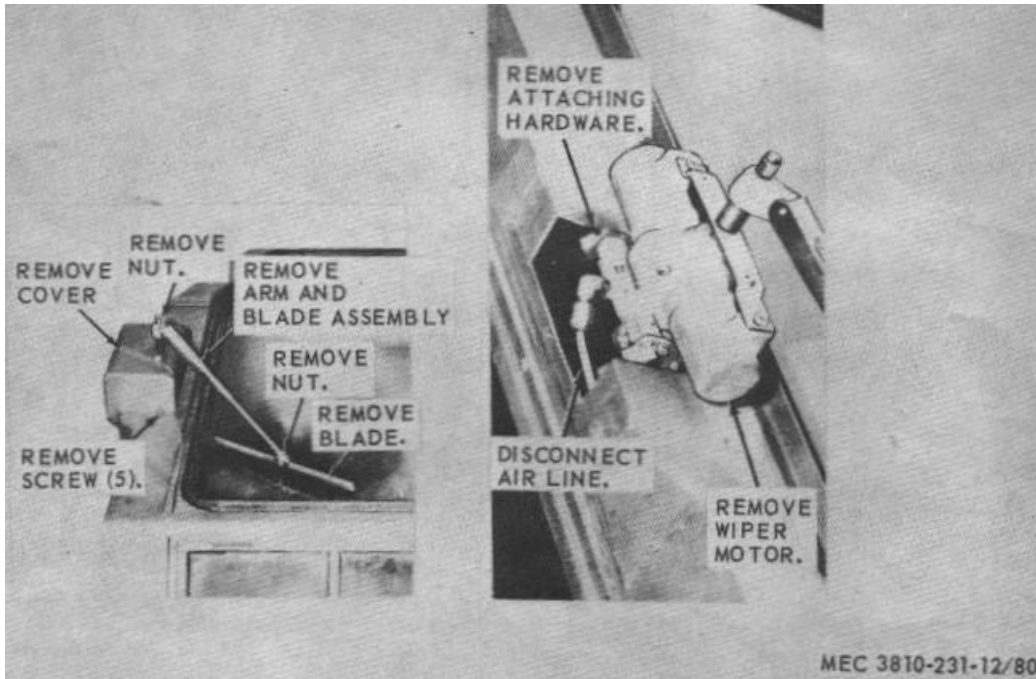

Figure 80. Windshield wiper motor, arm and blade, removal and installation.
b. *Removal and Installation.* Remove and install the windshield wiper arm and blade as illustrated in figure 80.
a. *Removal.* Remove wiper motor as instructed on figure 80.
- (1) Clean all parts with an approved cleaning solvent and dry thoroughly.
- (2) Inspect the windshield wiper motor for breaks, bends, or other damage. Repair or replace damaged hardware.
- (3) Inspect the motor for proper operation. Replace a defective motor.
c. *Installation.* Install wiper motor as instructed on figure 80.